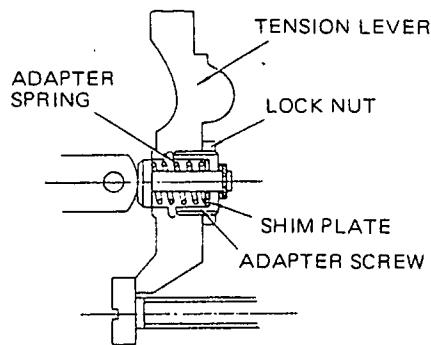

Fig. 4-65
- (1) Move the adjusting lever to full load position and fix it. Install the adapter assembly to the lower end of the tension lever.
- (2) Adjust the adapter screw so that the rod travel will become  $R_2$  mm when driving the pump at  $N_2$  rpm. Screwing the adapter screw increases the rod travel and unscrewing reduces the rod travel.
- (3) Adjust the spring tension with shims so that with the pump speed at  $N_3$  rpm,  $R_3$  mm rod travel is obtained. Add, reduce or replace shims between the adapter spring and adapter screw (Fig. 4-65):